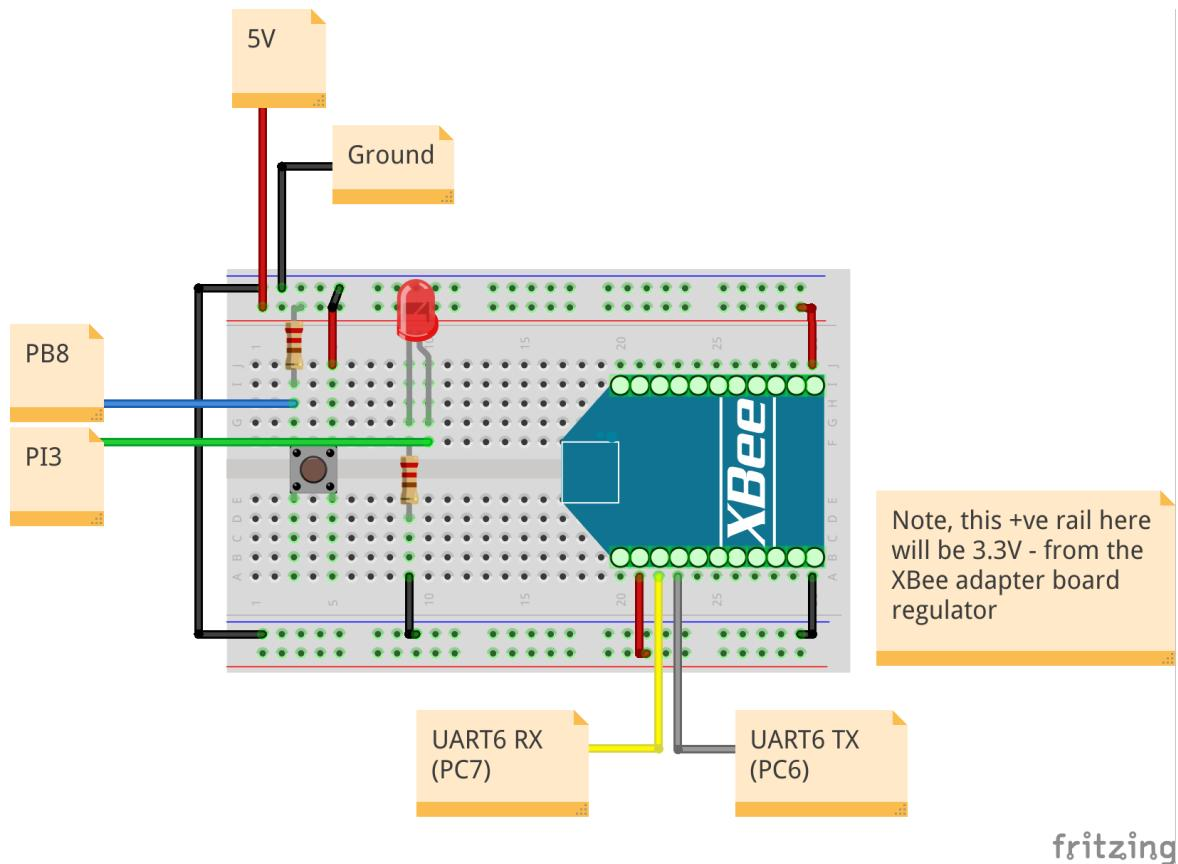

Figure 27 – The XBee coordinator to STM32F7 discovery connections
We are going to build the circuit shown in Figure 27 to connect the XBee coordinator to our STM32F7 discovery board. This will allow us to send remote query (IS) commands to our XBee sensor nodes by pressing a pushbutton connected to the STM32F7 discovery board.